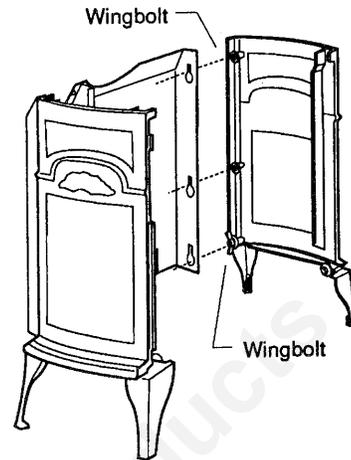
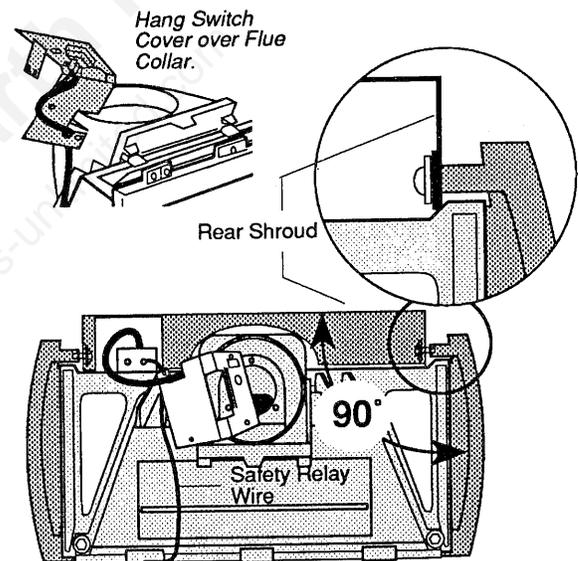
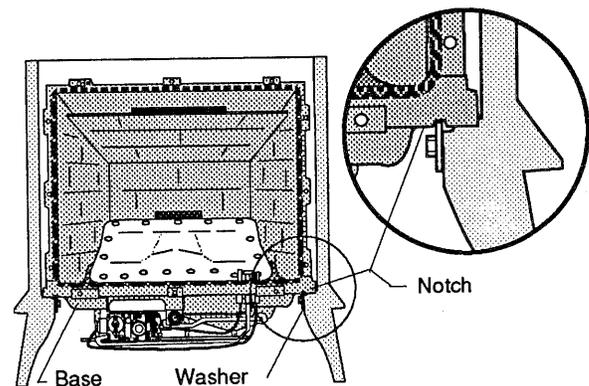

Figure 16. Secure Right End to the Rear Shroud.
Figure 17. Align both sides with the rear.
Figure 18. Install the Firebox Assembly. Be sure that the two large front washers engage the notches on both ends of the Base.
Step 2. Repeat Step 1 to attach the Right Side Plate to the Rear Shroud. Fig. 16. Move this assembly close to the stove's final position. Align the two side plates to be perpendicular to the Back Panel as in Fig. 17.
Step 3. Hang the Switch Cover over the flue collar rim, as in Fig. 17, to keep it out of the way while installing the firebox. **DO NOT PULL ON THE SAFETY RELAY WIRE LOCATED OVER THE FIREBOX.** Lift the DV25 firebox assembly as a unit and slide it back to position it within the shell. The base of the firebox should rest on the side support shelves as in Figs. 17 and 18. The large washer at the forward leg of each Side Plate should engage the corresponding notch in the underside of the firebox base as shown in Fig. 18. Properly positioned, the firebox will be level and locked in place. If not, adjust the levelling screws in the legs to keep the entire unit level.